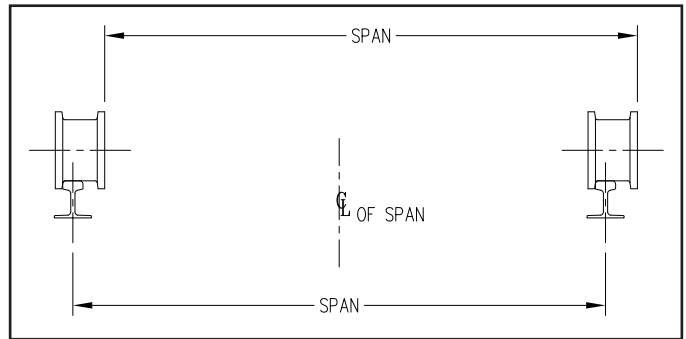

Figure 4. Checking Wheels
3. To check the distance between the trucks, push all truck wheels in one direction. The distance from the outside of the wheel on one side of the span to the inside of the wheel on the other side of the span should equal the span length, see figure 4. The tolerance on this distance is  $\pm 1/32$ "